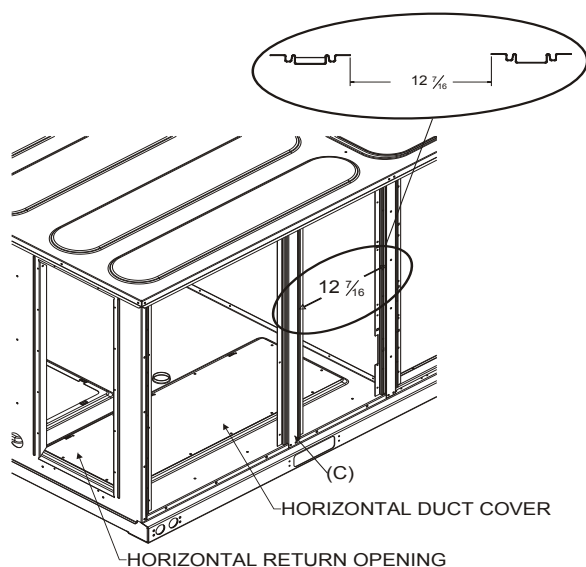

Figure 4
Install center post (C) at the location shown in **Figure 4**. The location is critical to the fit up of the remaining parts. Secure with 4 self-tapping 10-16 x 1/2 screws provided with the economizer.